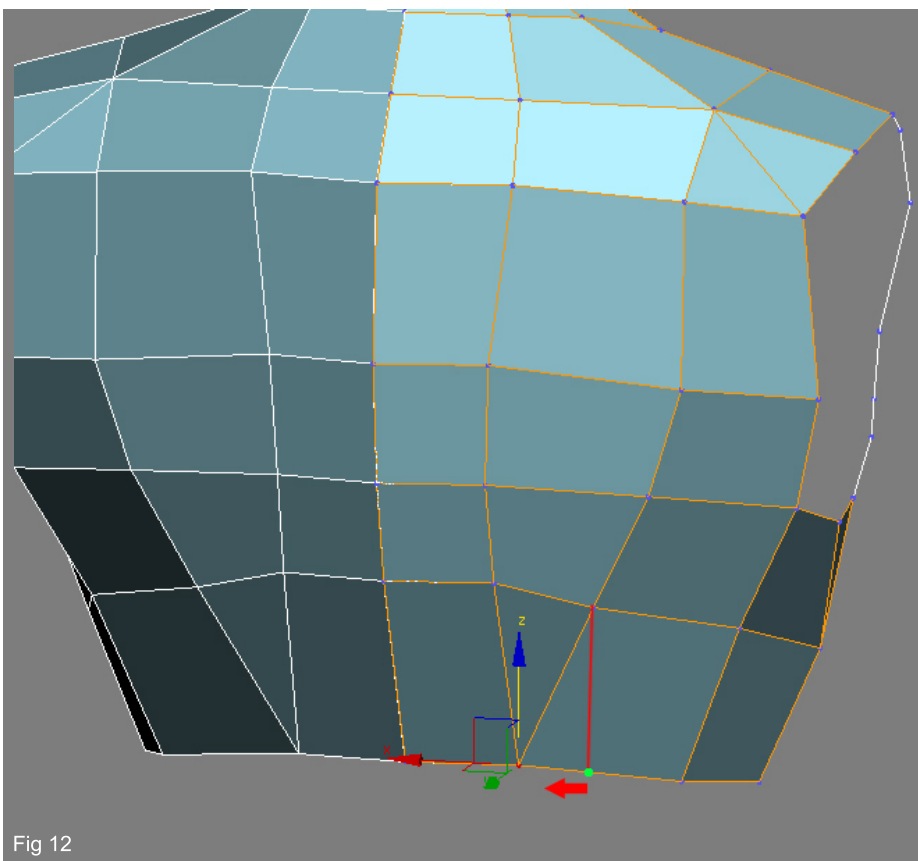

Fig 12
12. To help shape the muscle form on the back you could weld the vert shown in green in Fig12 to the one to its left. This will form a triangle and follow the shape of the muscles running downwards from the shoulder blades.